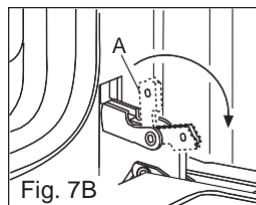

Fig. 7B
- 2) position the catches "A" of the hinges outwards (see fig. 7B).